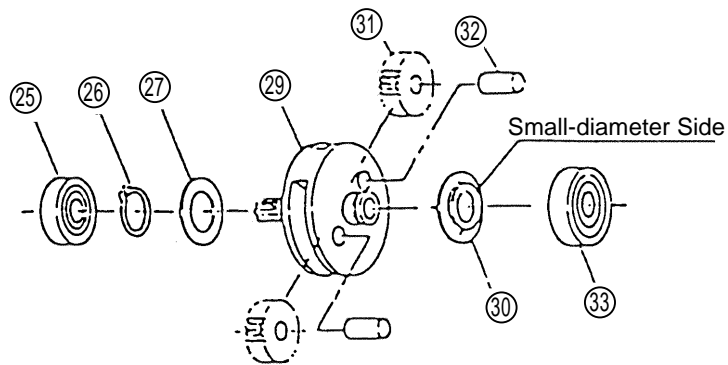

Fig. 14
(2) Reassembly of the Housing and Related parts:
(a) Second Pinion (29) and Related Parts. (See Fig. 14)